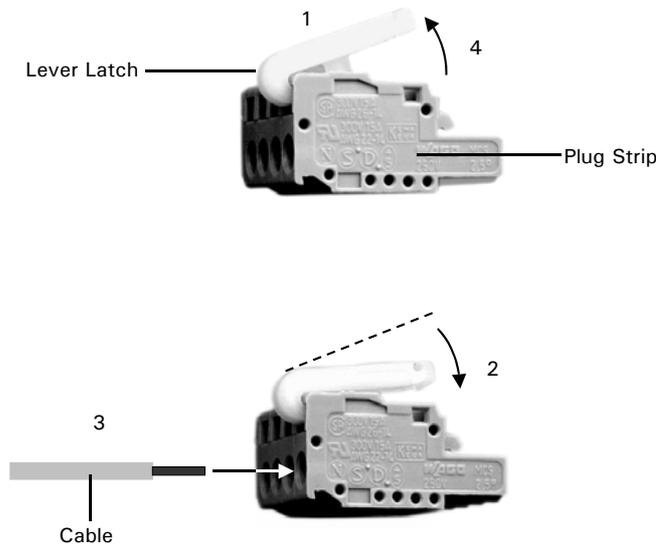

FIGURE 4-4. Connector for Terminal Strips
- a) Insert the rounded end of the lever latch into the square opening of the selected connector of the plug strip (item 1, FIGURE 4-4).
- b) Press the lever latch down as indicated by the arrow so that it is flush with the top of the plug strip (item 2, FIGURE 4-4).
- c) Insert the uninsulated end of the wire into the opening under the catch (item 3, FIGURE 4-4).
- d) Release the catch and remove the lever latch from the plug (item 4, FIGURE 4-4).